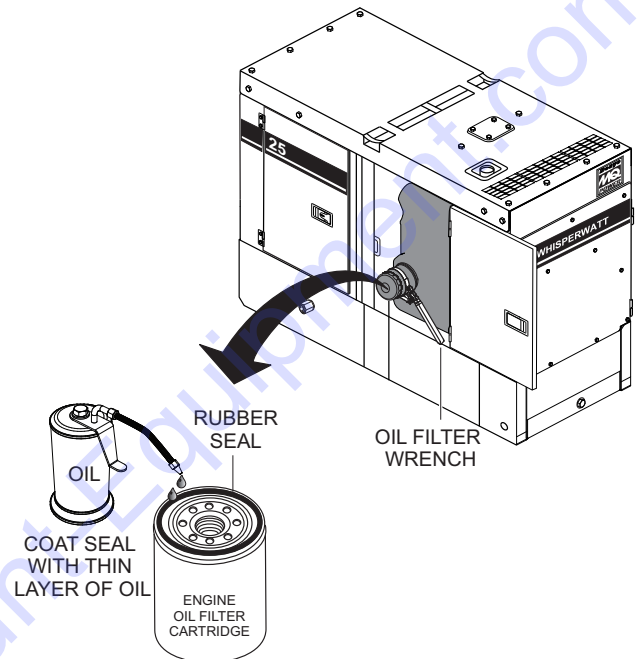

**Figure 69. Draining Engine Oil**
4. Remove the **oil drain cap** (Figure 69).
5. Place the **oil drain valve** in the open position (Figure 69) and allow the oil to drain into a suitable container.